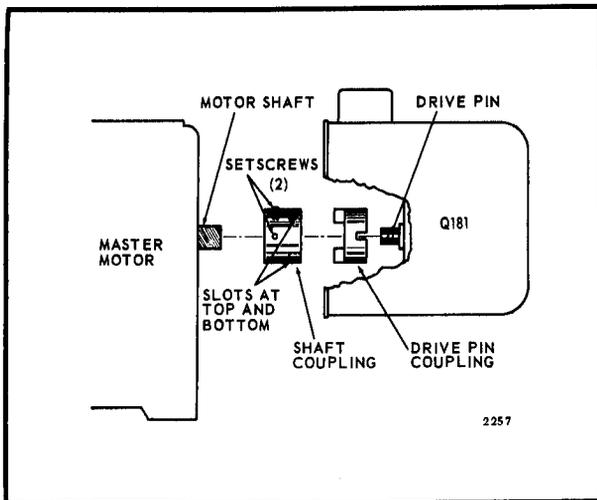

FIG. 3—TWO-PIECE COUPLING FOR MOTOR AND POTENTIOMETER.
1. The two-piece coupling provides a nonbinding connection between the motor drive shaft and the drive pin on the Q181A (see Fig. 3). Place the shaft coupling on the motor shaft so the slots are on the top and bottom when the motor is in the closed position (controller R-W contacts are closed). Tighten both set screws securely.